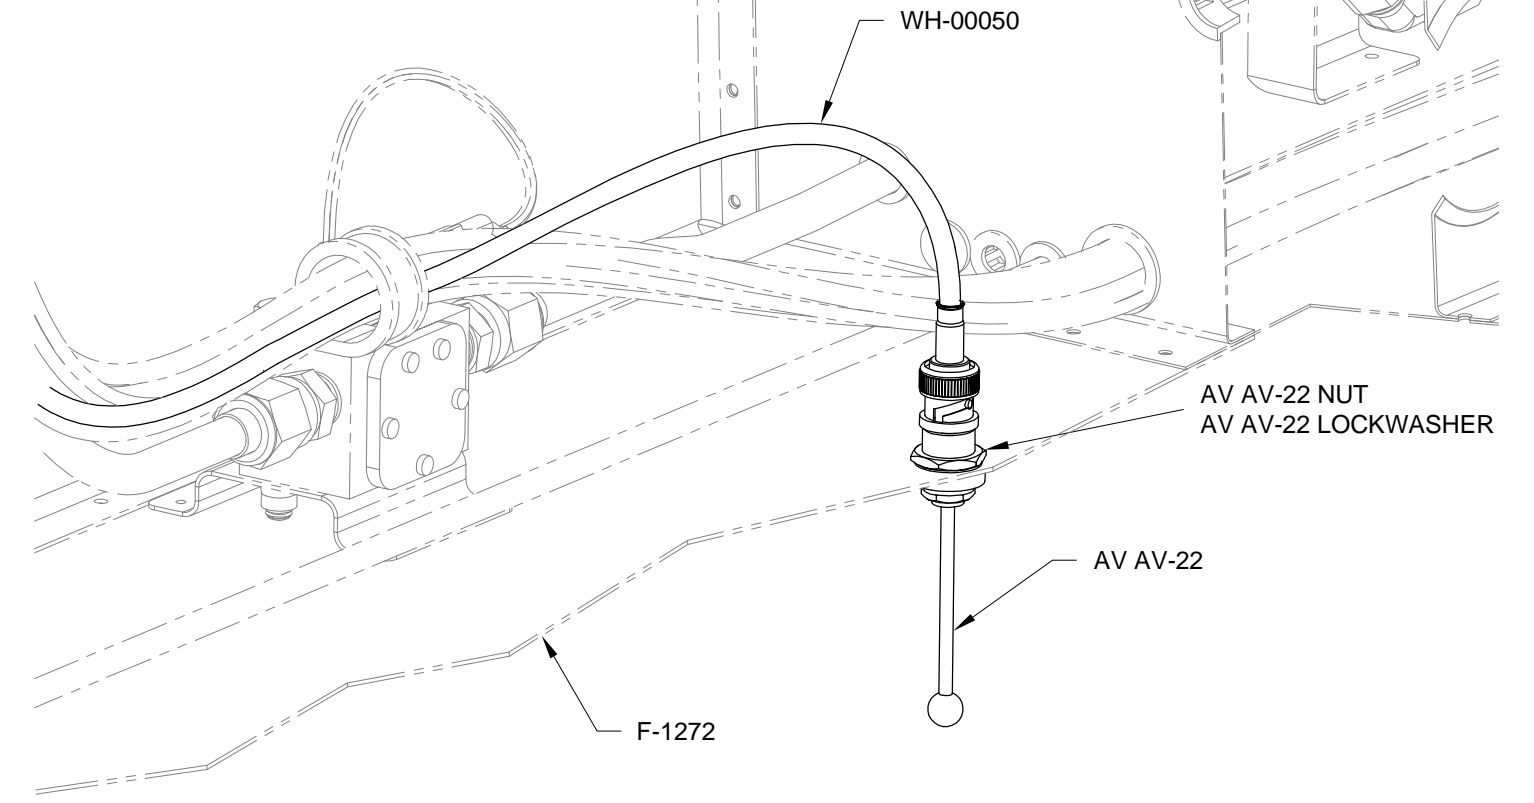

FIGURE 2: INSTALLING THE TRANSPONDER ANTENNA
Step 2: Attach the AV AV-22 Transponder Antenna to the F-1272 Fwd Fuse Floor Skin using the hardware called out in Figure 2.
Step 3: Attach the WH-00050 Transponder Antenna Cable to the AV AV-22 Transponder Antenna as shown in Figure 2.